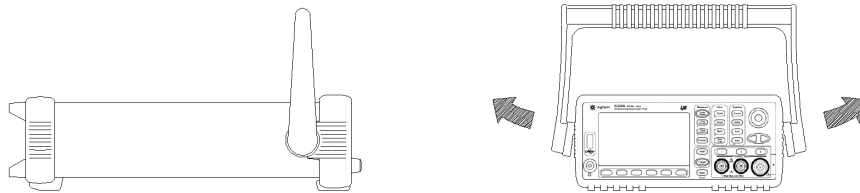

Figure 3-1 Handle removal
- 2 Remove the handle by rotating it to the vertical position and pulling the ends outward as shown in Figure 3-1.